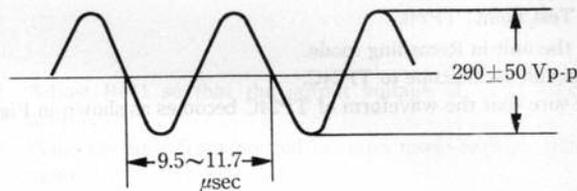

Fig. 15
3. Make sure that the output voltage becomes  $290 \pm 50 \text{Vp-p}$ , and the output frequency becomes  $95 \pm 10 \text{kHz}$  as shown in Fig. 15.